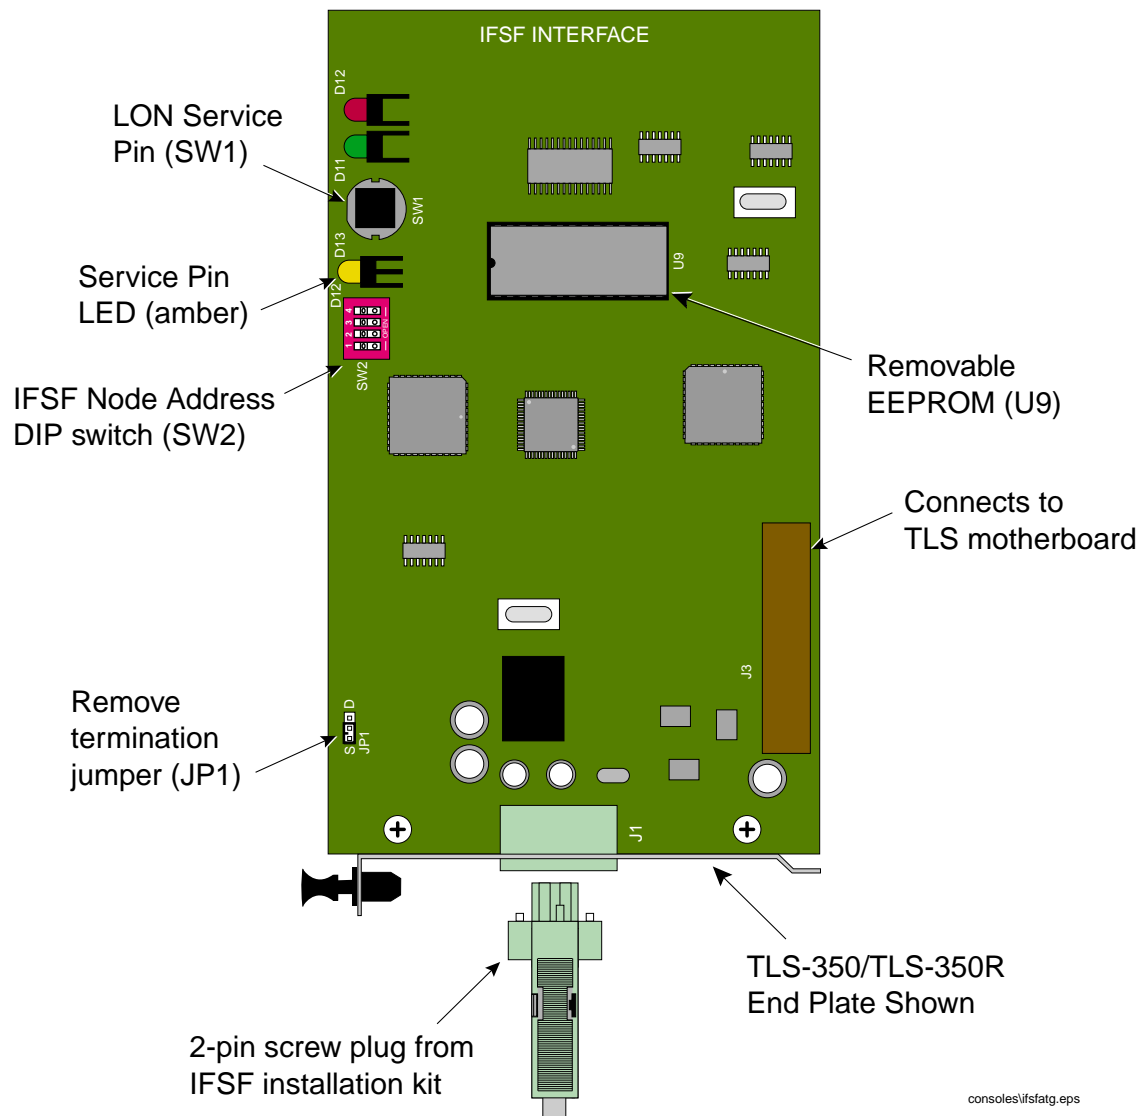

Figure 1. Locating Node Address DIP Switch
1. Locate the IFSF Node Address DIP switch (SW2) on the IFSF Interface Module (see Figure 1).
The IFSF Interface Module is shipped from the factory with a termination resistor installed (JP1) - see Figure 1. A IFSF LON network can have only one termination resistor, which is usually installed in the Site's Primary Junction Box. Remove JP1 from the IFSF Interface Module to disconnect the onboard termination resistor.